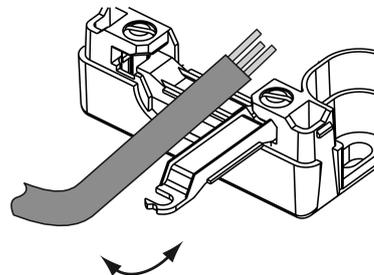

Figure 3: Strain relief
- Ensure strain relief (Figure 3).
- Engage adapter (3).
- Insert the dimmer mini into the housing base (4) in such a way that the device can be operated through the housing lid.